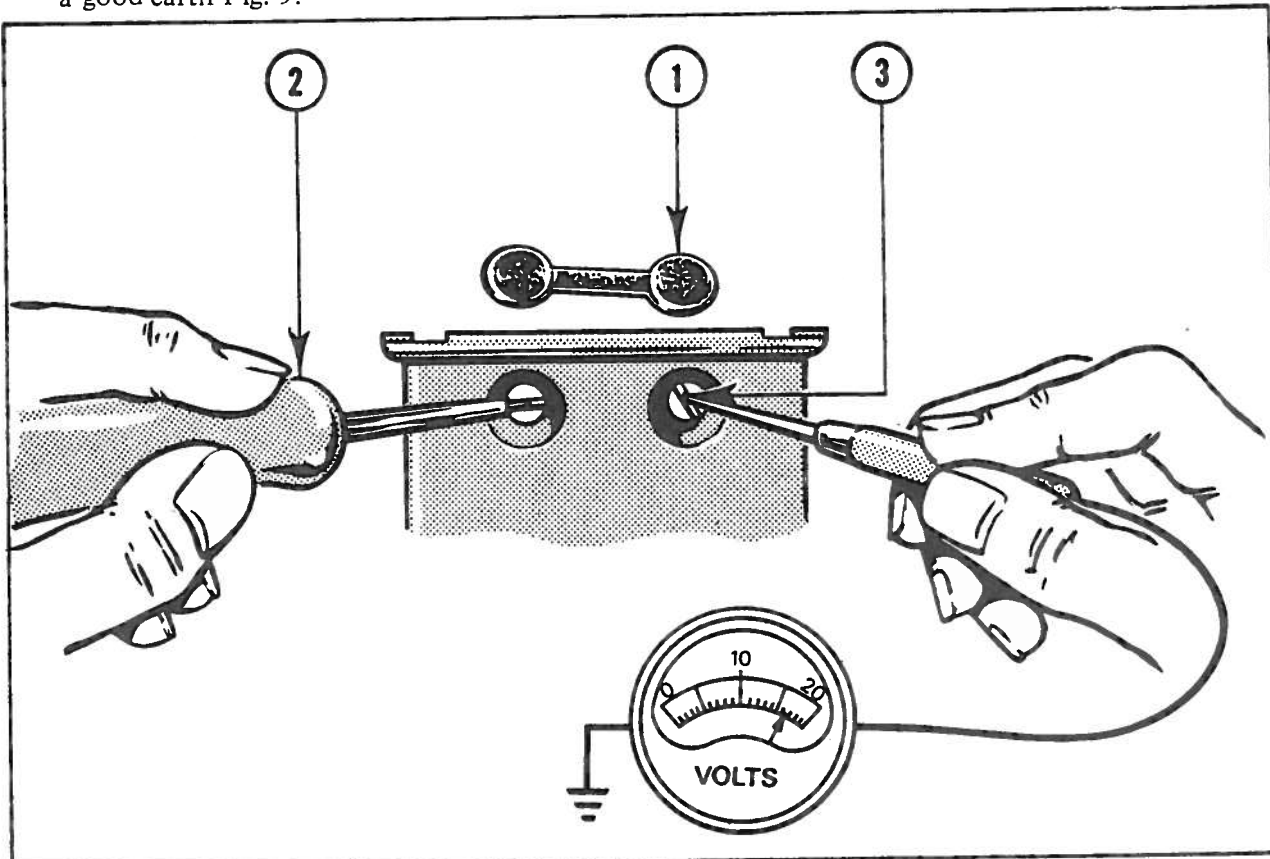

Fig. 9 Use of test prods to measure voltages
3. Remove the linked rubber blanks from the control box cover, and use test prods to measure the voltage between the exposed head of one of the adjustment screws and a good earth Fig. 9.